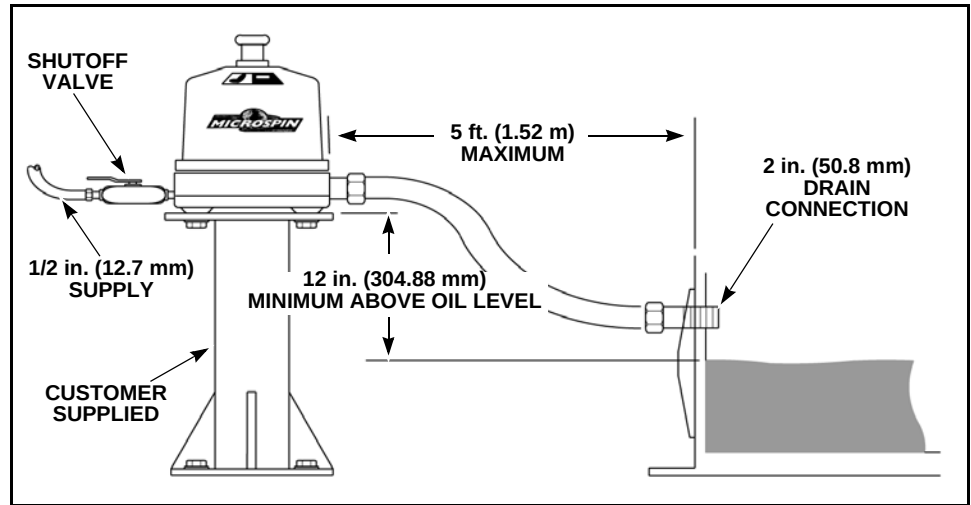

Figure 5-6 General Piping Schematic for Microspin®
*The Microspin system, as offered by Waukesha, is an oil pressure driven centrifuge bypass oil filtration system (see Figure 5-6). Engine oil pressure drives the centrifuge, which creates a spinning action from the internal turbine assembly developing a force that exceeds 2000 G's. This centrifugal force compacts the oil contaminants against the turbine housing. The centrifuge will remove contaminants as small as 0.5 micron. Waukesha offers the Microspin system as a kit for all Waukesha Engines except the VSG engine series. The APG2000/12V220GL and APG3000/18V220GL is also equipped with a centrifugal bypass filter as standard.